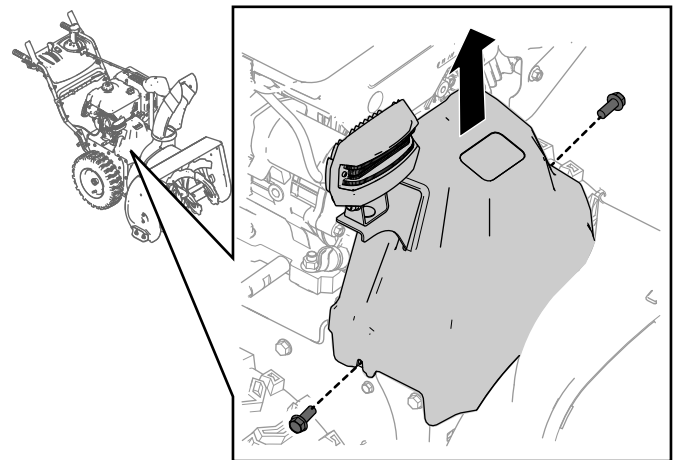

Figure 1
1. Remove the 2 screws that are holding the belt cover in place (Figure 1).
2. Remove the belt cover (Figure 1).